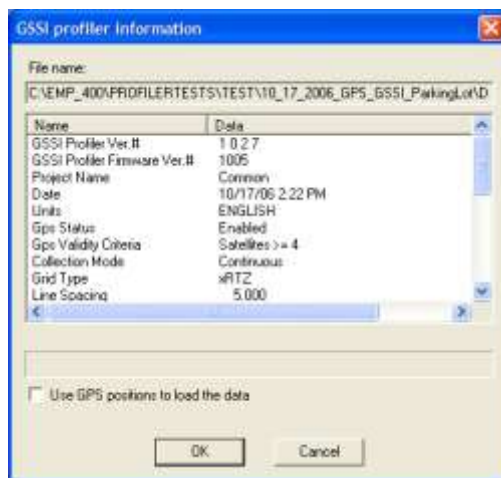

Figure 93: MagMap2000 GSSI Profiler Header Information Display(NEW).
3. Upon opening the file, the MagMap2000 program will open the GSSI Profiler Information display. This information comprises data stored in the file header (Figure 93).